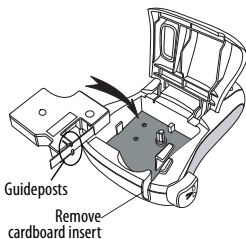

Figure 4
- ① Before using the label maker for the first time, remove the protective cardboard insert from the tape exit slot. See Figure 4.